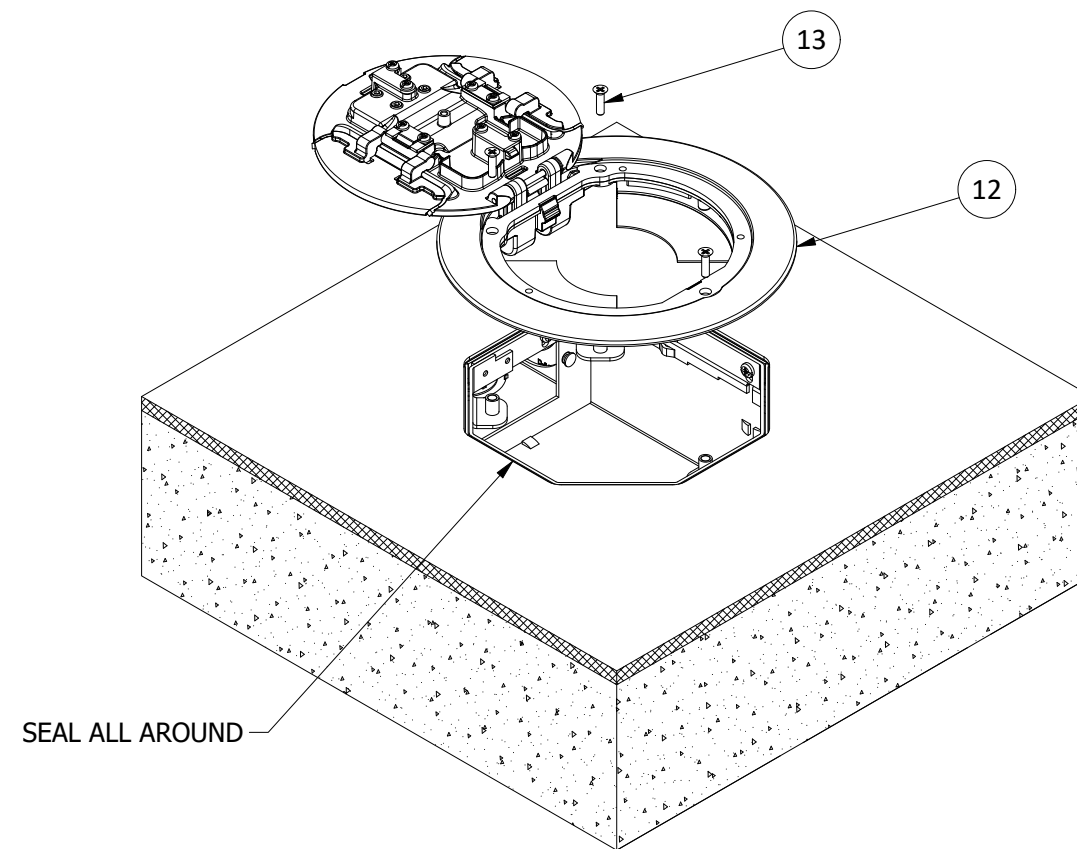

FIGURE 5
17. Seal the gap around the cover support collar [9] with a continuous bead of electrical grade type RTV silicone sealant (SEE FIGURE 5).